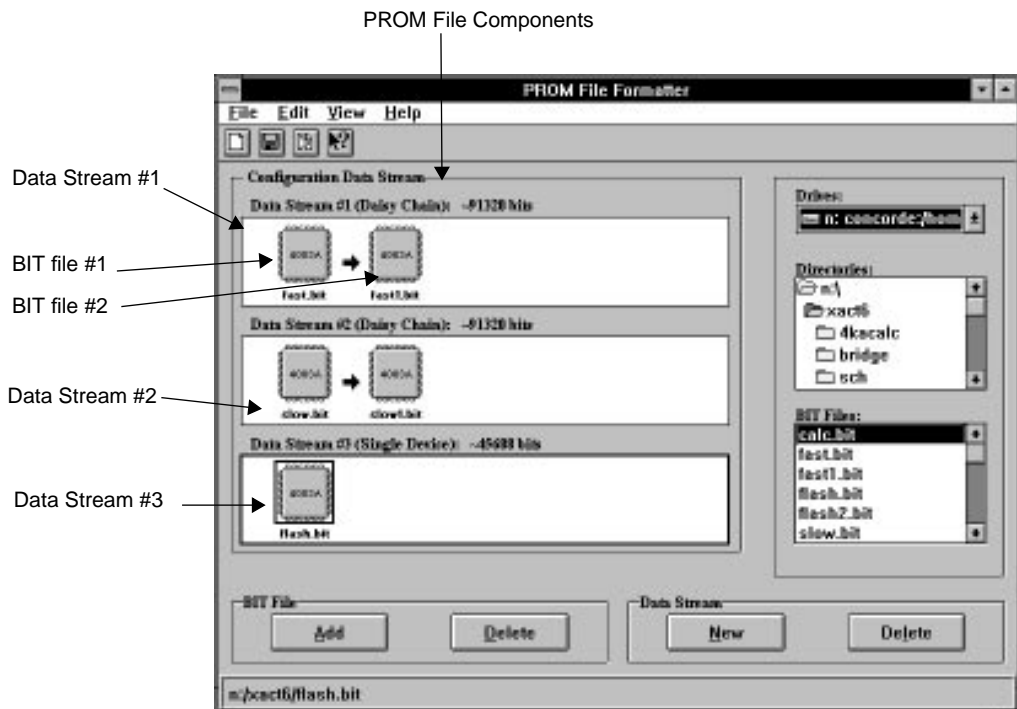

Figure 1-2 Configuration Data Streams for Multiple Daisy Chains
A Xilinx PROM file consists of one or more data streams. In this context, a data stream represents all the configuration data required to implement a given application. Each data stream contains one or more BIT files and once saved, will have a separate preamble and length count. Figure 1-2 illustrates the structure of a PROM file.
- To implement an application for a single device, use a data stream containing a single BIT file. Data Stream #3 in Figure 1-2 shows a configuration data stream for a single device.
- To implement an application for a group of FPGA devices connected together in a daisy chain, use a single data stream containing multiple BIT files, that is, one BIT file for each device in the daisy chain. Data Stream #2 in Figure 1-2 shows a configuration data stream for a single daisy chain of devices.
- To implement an application for several groups of daisy chained devices, you must build one data stream per daisy chain. Figure 1-2 is an example of a PROM file for multiple daisy chains